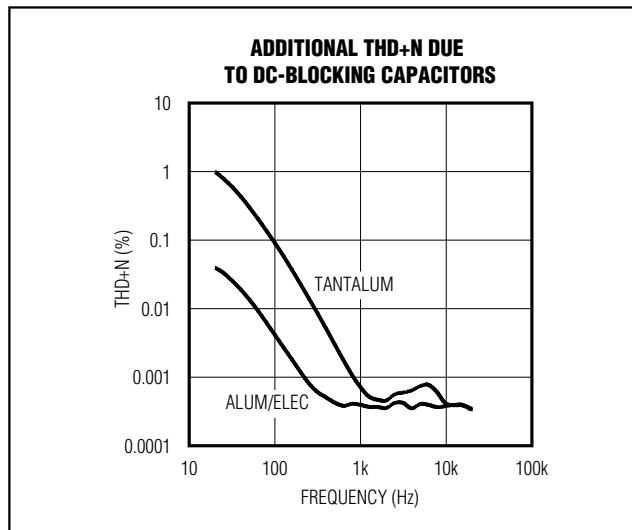

Figure 5. Distortion Contributed by DC-Blocking Capacitors
2) The voltage coefficient of the DC-blocking capacitor contributes distortion to the reproduced audio signal as the capacitance value varies and the function of the voltage across the capacitor changes. The reactance of the capacitor dominates at frequencies below the -3dB point and the voltage coefficient appears as frequency-dependent distortion. Figure 5 shows the THD+N introduced by two different capacitor dielectric types. Note that below 100Hz, THD+N increases rapidly. The combination of low-frequency attenuation and frequency-dependent distortion compromises audio reproduction in portable audio equipment that emphasizes low-frequency effects such as in multimedia laptops, MP3, CD, and DVD players. By eliminating the DC-blocking capacitors through DirectDrive technology, these capacitor-related deficiencies are eliminated.